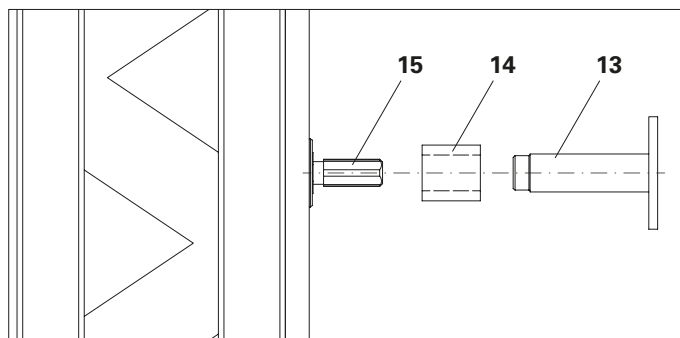

Fig. A5.07
3. Screw Anchor Sleeve M24 onto Anchor Position. M24x65 mm (**15**) and tie it to the reinforcement to secure the position. (Fig. A5.07)